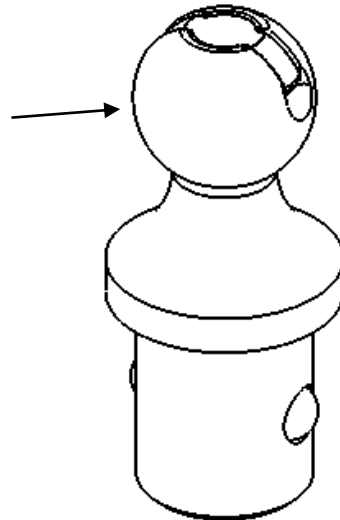

Figure 2
- 2) Rotate handle to locked position as shown in Figure 2 & 3. Handle should drop below the top surface of the gooseneck ball.